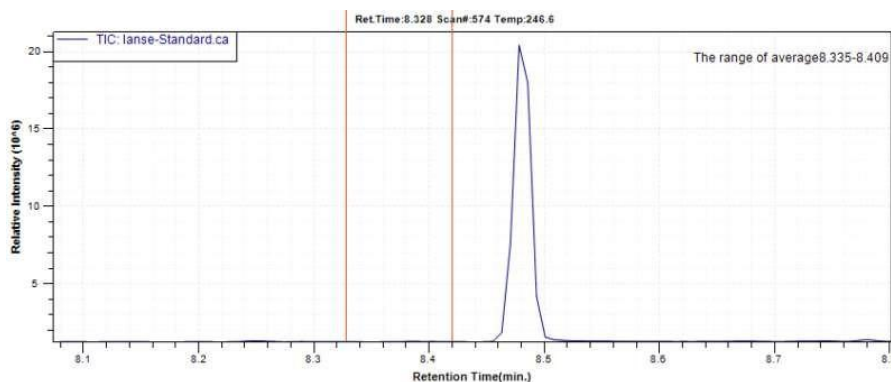

Figure 7-6 Select Noise Range
- (3) Click the  icon on the toolbar, press and hold the left mouse button to select a segment of straight baseline on the left or right side of the target chromatographic peak as the mean noise level, as shown in Figure 7-6.